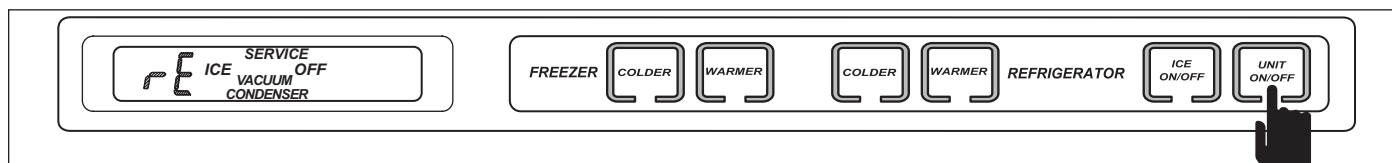

Figure 3-30. Press UNIT ON/OFF Key to Display Location of Thermistor
- Press the UNIT ON/OFF key at this time to display the location of the thermistor being read, "rE" represents the refrigerator evaporator temperature (See Figure 3-30).